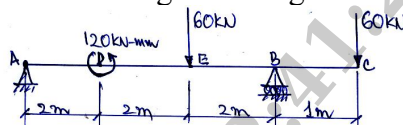

Fig. Q5 (b)
b. A overhanging beam with roller and hinged supports is as shown in Fig. Q5 (b). Draw bending moment and shear force diagrams for given loadings. (10 Marks)